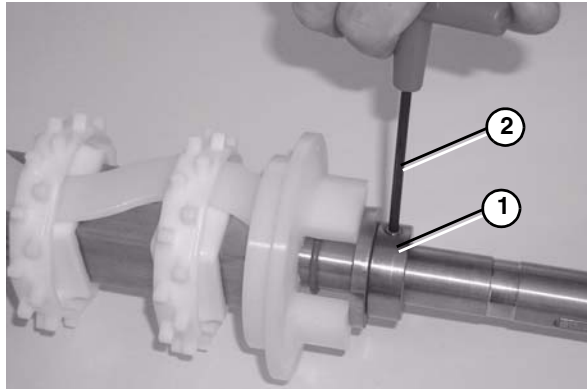

Figure 71
7. Slide the retaining ring (**Figure 71, item 1**) onto the drive spindle. Leave a slight gap between ring and washer to allow flanged puck to spin freely.
8. Tighten the retainer ring fastener using a hex wrench (**Figure 71, item 2**).